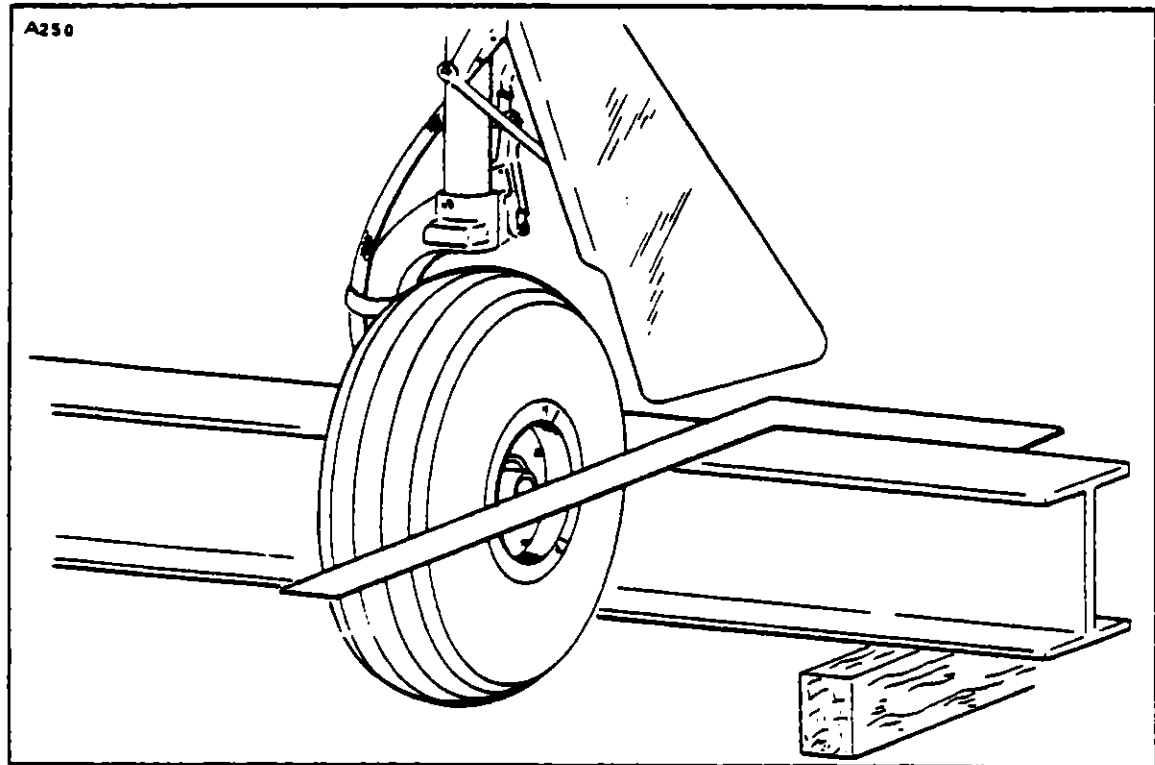

FIGURE 6-11. ALIGNING MAIN GEAR
b. Set a square against the straight edge and check to see if its outstanding leg bears on the front and rear sides of the main landing gear tire. (Refer to Figure 6-11.) If it touches both outboard sides of the tire, the landing gear is correctly aligned. The toe-in for the main landing gear wheels is 0 degrees.